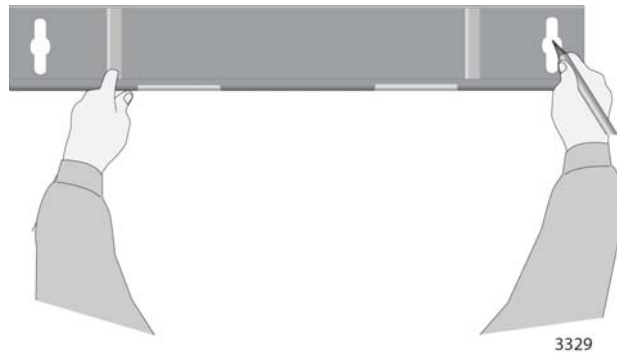

Figure 9. Marking the Screw Holes for the Top Bracket
2. After positioning the bracket on the wall, use a pen or pencil to mark the wall with the locations of the two screw holes in the bracket. Refer to Figure 9.